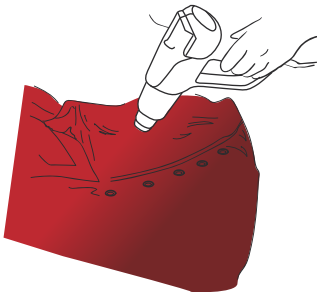

Figure 19
- Then heat each rivet again to 80 °C - 90 °C (176 °F - 194 °F). (FIG. 19)